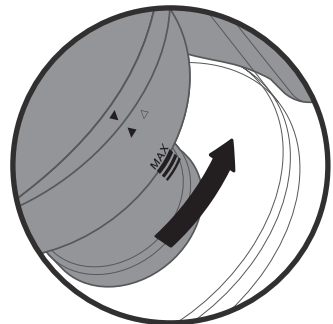

Figure 3.3
5. Reattach the metal filter and dust bin to the vacuum body [Figure 3.3].